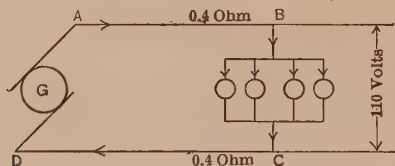

FIG. 54.
**Example 1.** In a lighting system, as shown in Fig. 54, each lamp takes  $\frac{1}{2}$  amp. at 110 volts. We wish to find the voltage which the generator must deliver in order to force the current through the line wires and still have 110 volts left to force the current through the lamps.